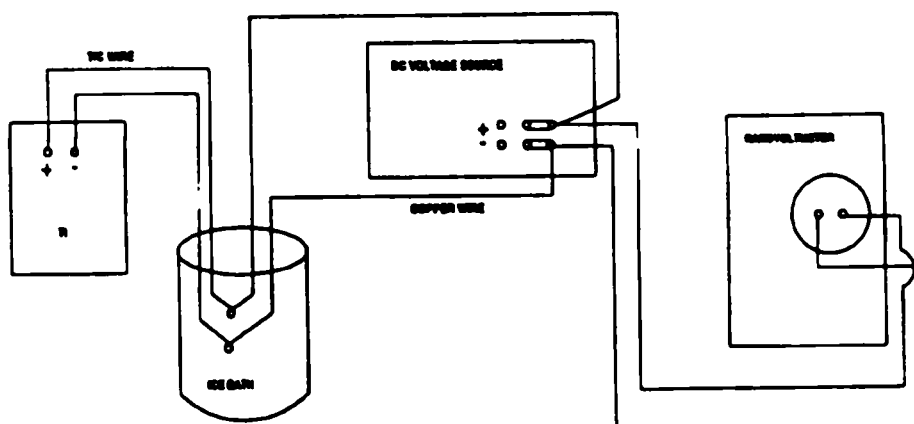

Figure 1.
4.2.2 Connect equipment as shown in Figure 1.